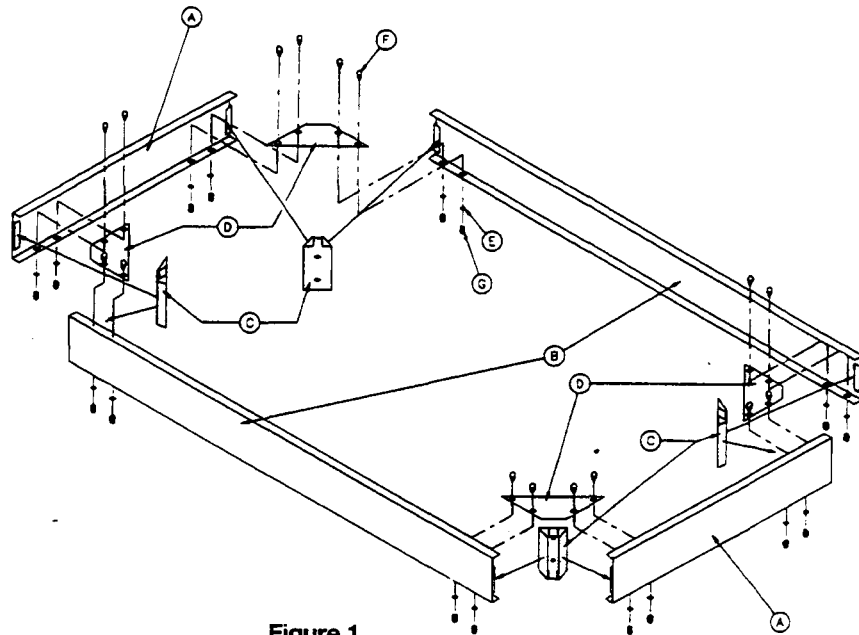

Figure 1
1. Remove from carton two (2) item "A" bottom brace left and right side, and two (2) item "B" bottom brace front and rear, and position as shown in Figure 1. Position one (1) item "D" comer brace into each comer matching prepunched holes on the bottom inside flange of bottom braces.